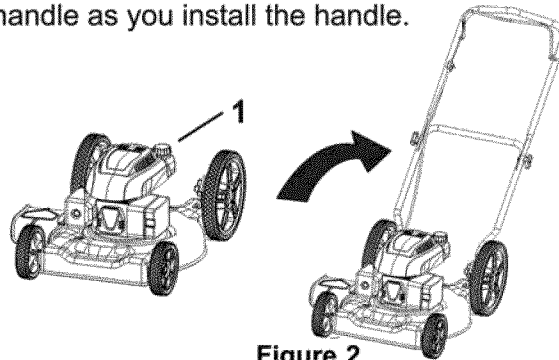

Figure 2
1. Remove the handle knobs from the mower housing (Figure 2).
1. Handle knob (2)
3. Install and tighten the handle knobs that you removed in step 1 (Figure 2).